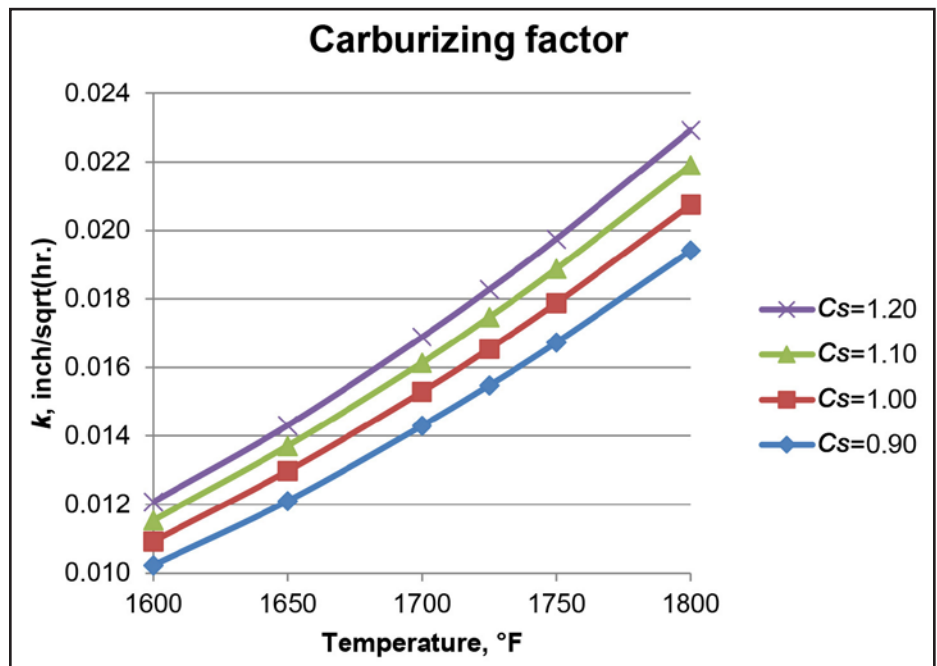

Figure 4 Calculated carburizing factor k of base carbon content 0.10 wt. % for different carbon potential and carburizing temperature.
For a specific base carbon content steel (C_0), preset carbon potential (C_s), and carburizing temperature (T) with carbon content at 50 HRC known, we can derive the relationship between designated effective case depth x and cycle time t from Equation 3 and get carburizing factor k for Equation 5. Results for base carbon content of 0.10 wt. percent at different carbon potential and temperature are shown (Fig. 4), revealing that k increases with temperature and carbon potential, as